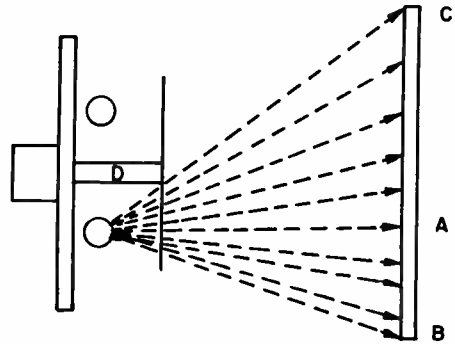

FIG. 7. Illumination of lower lamp.
Second, the placement of these components is such that light from either lamp will illuminate the entire screen, although the illumination will be uneven. For example, the lower lamp shown in Fig. 7 will shine on the screen from B to C as indicated. Motor bushing (D) does not lie in the path of the light to the screen at C, and therefore will not cast a shadow. The light pattern at A will be the brightest and most pronounced because it is closest to the lamp. The pattern at B will be less bright than that at A, and the pattern at C will be the least bright of all.